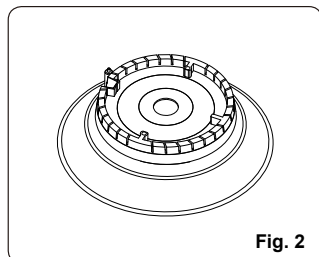

Fig. 2
2.) Turn the burner over and cover the burner cap (Fig. 2).